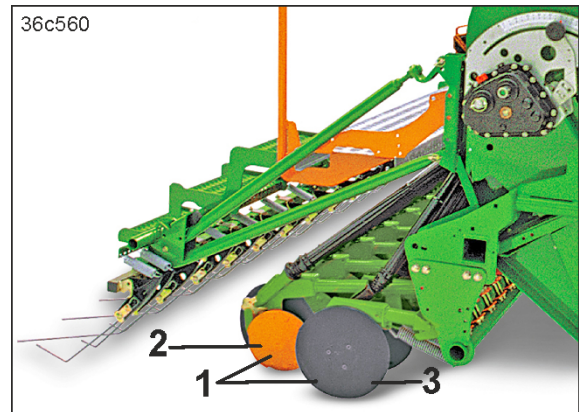

Fig. 75
The RoTeC Control couler (Fig. 75/1) is used for seed placement on ploughed or mulched soil, even with large quantities of straw and plant residues.
Thanks to the support of the couler on the depth control disc/wheel (Fig. 75/2) and the high couler pressure, the couler runs very smoothly and precisely maintains the seed placement depth.
- cleaning the rear side of the steel disc (Fig. 75/3).